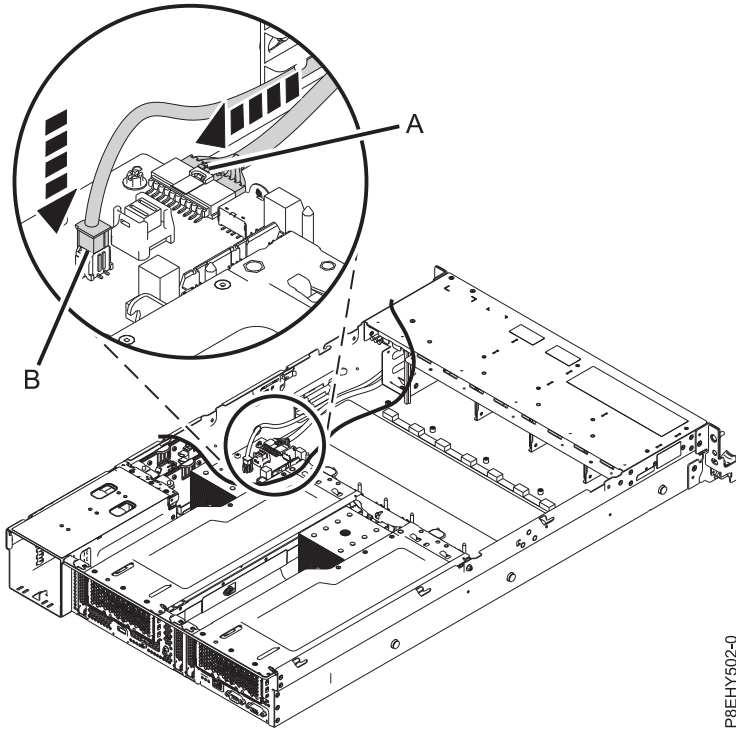

Figure 27. Plugging in the cables
6. Using the labels, plug the front USB cable **(A)** and the power switch cable **(B)** to the system backplane. See Figure 27 on page 30. Ensure that the cable latch clip snaps into place on the connectors.